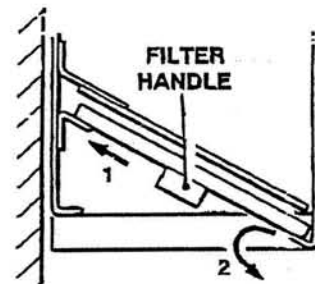

Figure 7
- 7 To remove filter, slide it up towards the back of the unit (1) then slide the filter forwards and down out of the unit (see fig. 7).